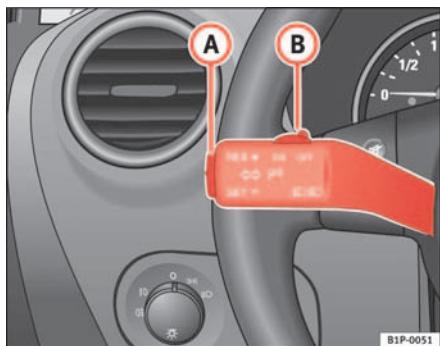

Fig. 123 Turn signal and main beam lever: switch and rocker switch for CCS
- Press the upper part of the rocker switch **RES** ⇒ fig. 123 (A) to increase the speed. The vehicle will continue to accelerate for as long as you keep the rocker switch pressed. When you release the switch, the new speed is stored.
Control of the set speed is switched off if you reduce speed by depressing the brake pedal. You can reactivate the regulator by pressing once on the upper part of the rocker switch **RES+** ⇒ fig. 123 (A).